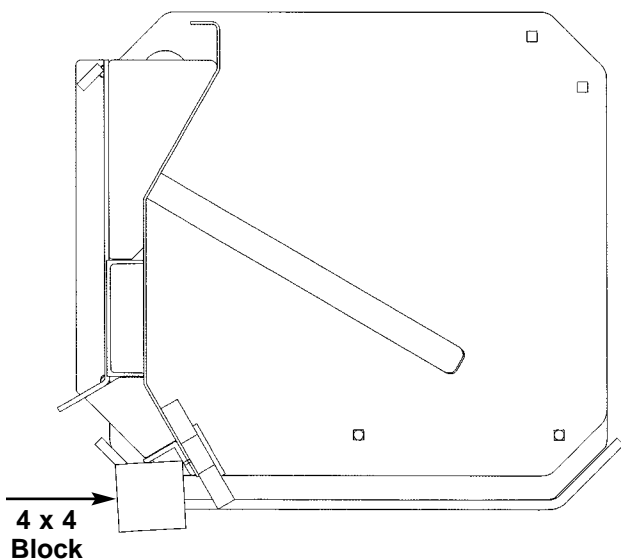

Figure 4. Recommended Storage Position
7. Always store in a safe position with support blocks at the rear under the angel iron bar. (See Figure 4.)